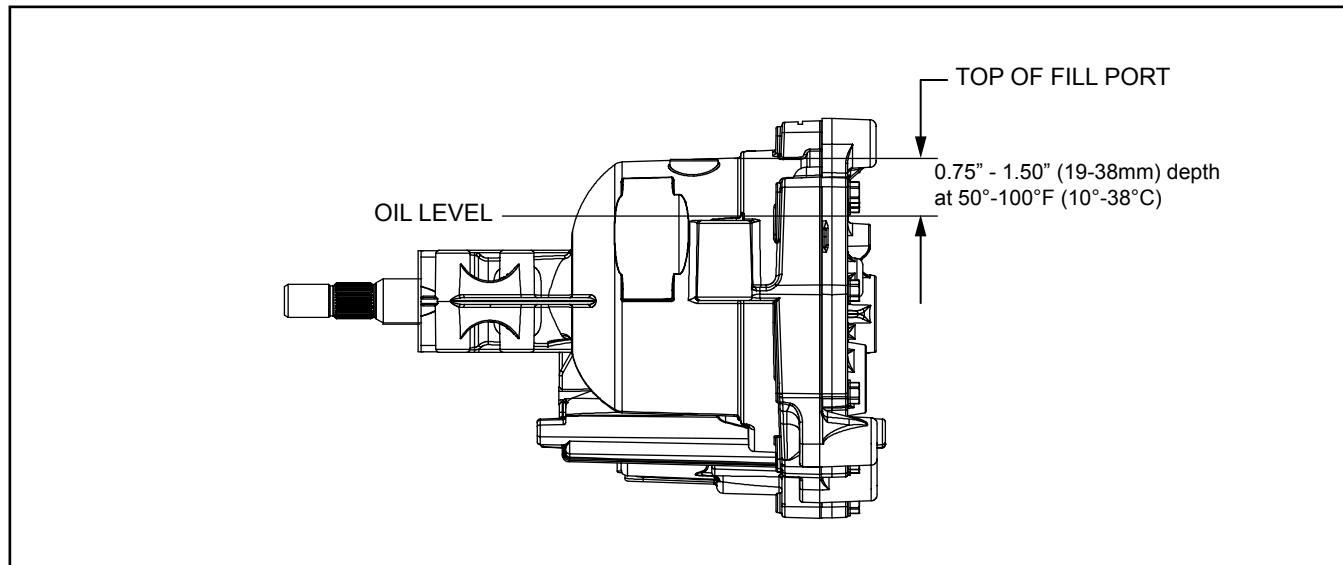

Figure 4. Fluid Level and Fill Port
2. Check oil level in accordance with Figure 4 Page 11.
5. Fill the transaxle at the oil fill port according to Figure 4.
Before starting, make sure the transaxle/transmission is at the proper oil level. If it is not, fill to the specifications outlined on Page 11, Figure 4.